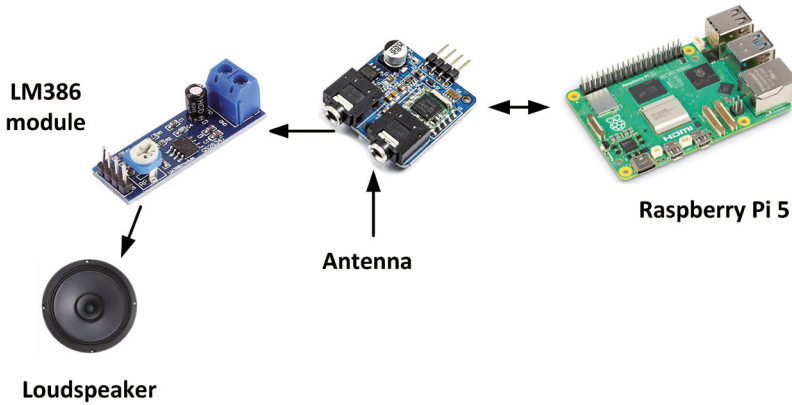

Figure 4.78: Block diagram of the modified project.
**Block diagram:** The block diagram of the modified project is pictured in Figure 4.78.